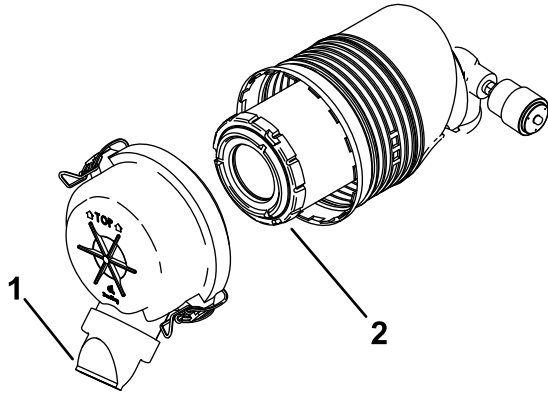

Figure 43
5. Install the air-cleaner cover with the dust cap oriented downward as shown in Figure 43 and secure the latches.